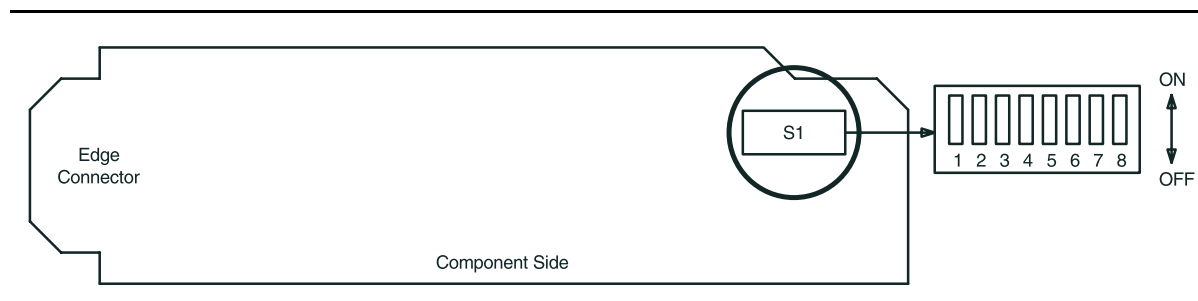

Figure 1. DS1/DS1PM Option Settings
Refer to Table B and Figure 1 and set the line code option switches, if required.
7. Refer to Figure 1 and Table A and set LBO option switches on protection **DS1/DS1PM** circuit pack(s).